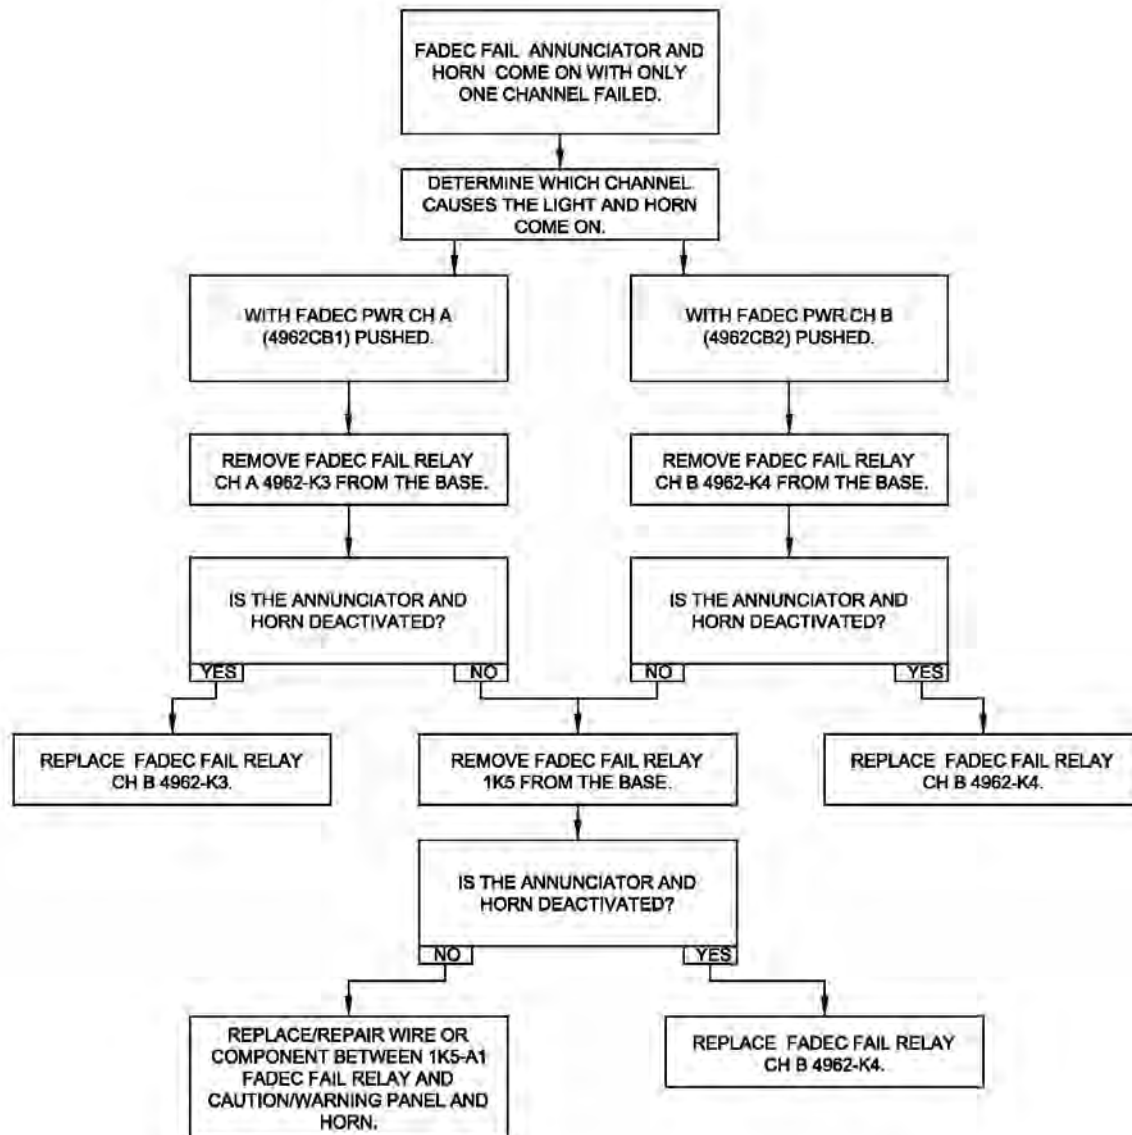

Figure 96-66: FADEC FAIL Annunciator and Horn Circuit – Trouble No. 2
- If the FADEC FAIL annunciator and horn does come on, refer to Trouble No. 2 (Figure 96-66).